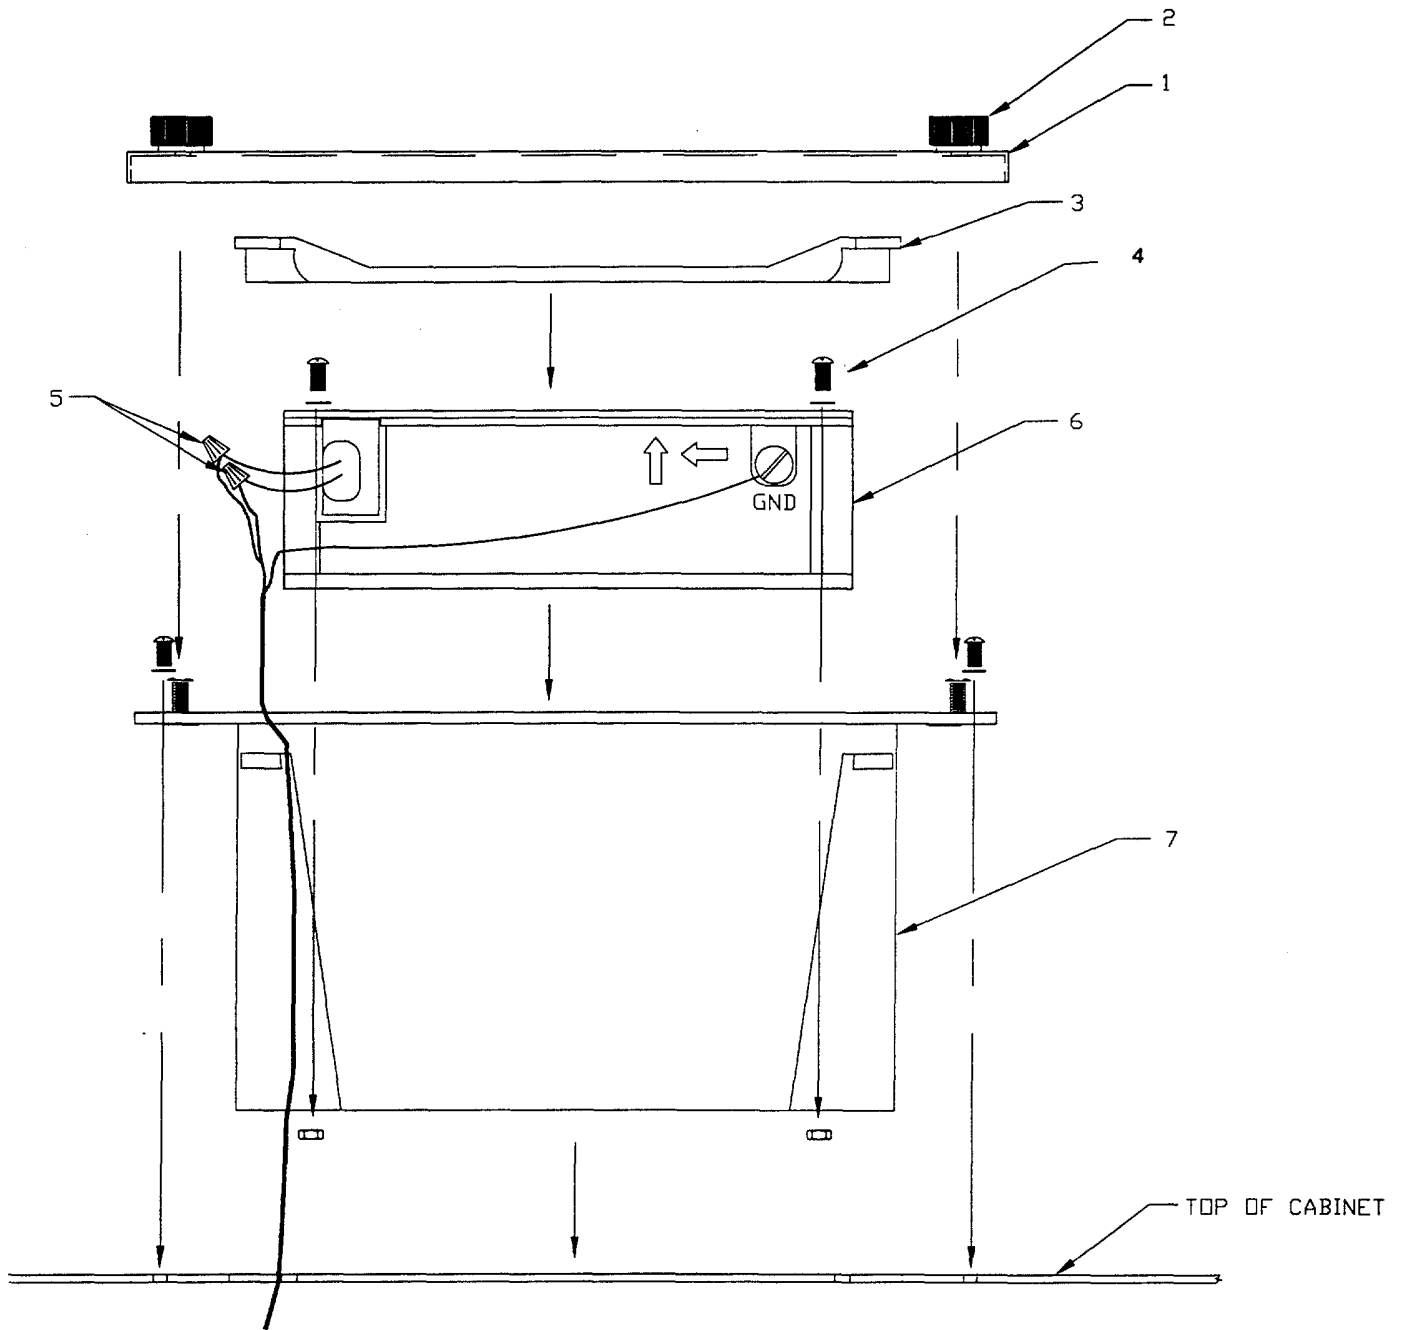

Figure 3-35. PMC Fan Assembly
**3-29. REPLACE PMC COMMUNICATIONS CABINET FAN ASSEMBLY.** (Figure 3-35).